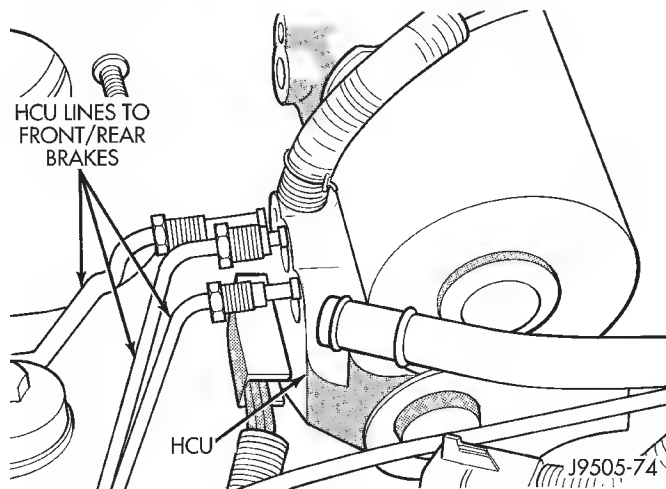

Fig. 21 HCU Front/Rear Brakeline Connections
(9) If HCU mounting bracket will be left in place, it will be necessary to remove HCU solenoid harness connector from mounting bracket. Remove connector fasteners, by squeezing them closed with needle nose pliers; then pulling them out of bracket.
(10) Disconnect lines to front/rear brakes at lower left side of HCU (Fig. 21).